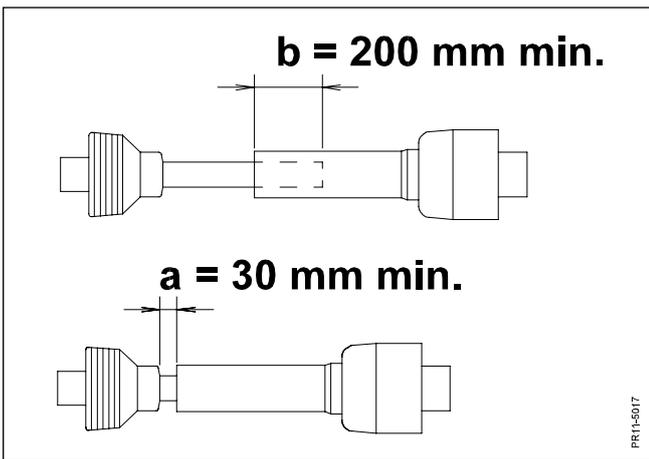

Fig. 2-9
- Fig. 2-9** Check the maximum turning angle "C" with the machine in raised position. Because of the position of the PTO shaft the turning angle "C" is limited by the fact that the PTO shaft is not pushed any further together than the prescribed 30 mm distance to the block.